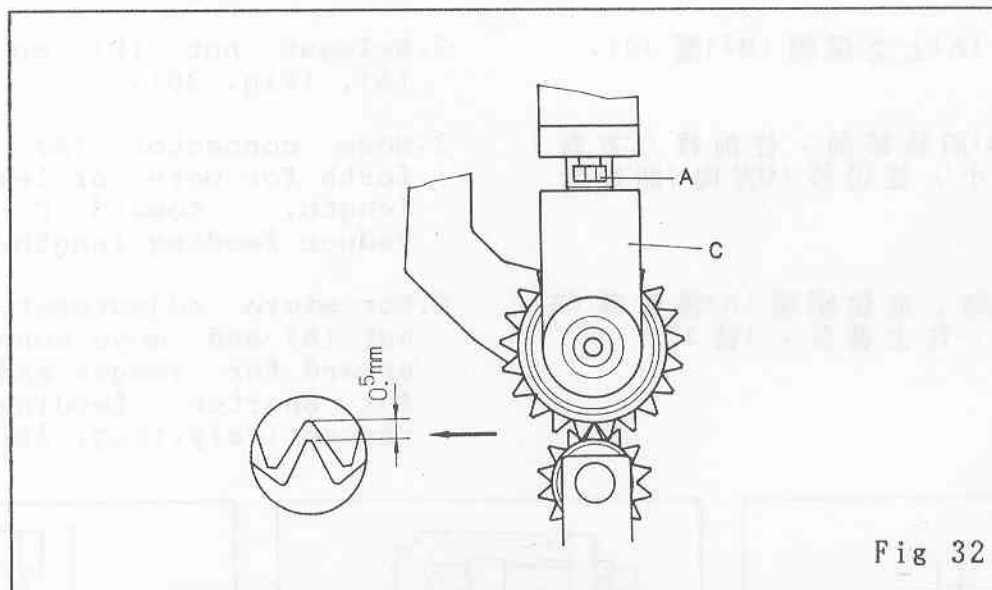

Fig 32
The feeth gap between top and lower rollers should be 0.5mm (Fig. 32), when the lower roller is free and at its dead bottom end and parallel to the top roller.(Fig. 32)
tighten screw (A) (Fig. 32).